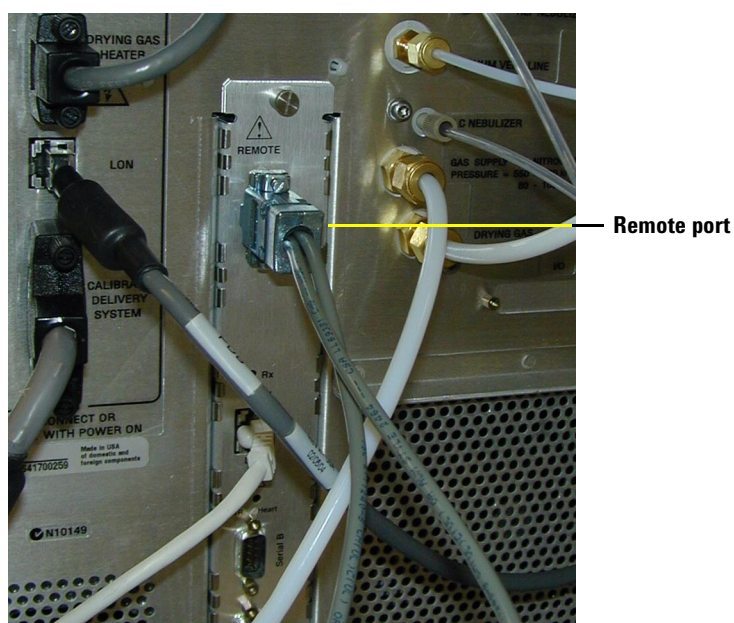

Figure 118 Connect the Laser Synchronization cable to the Remote port
- a Attach the 9-pin connector with two cables present to the **Remote** port on the LC/MSD TOF Smart Card. See Figure 118.